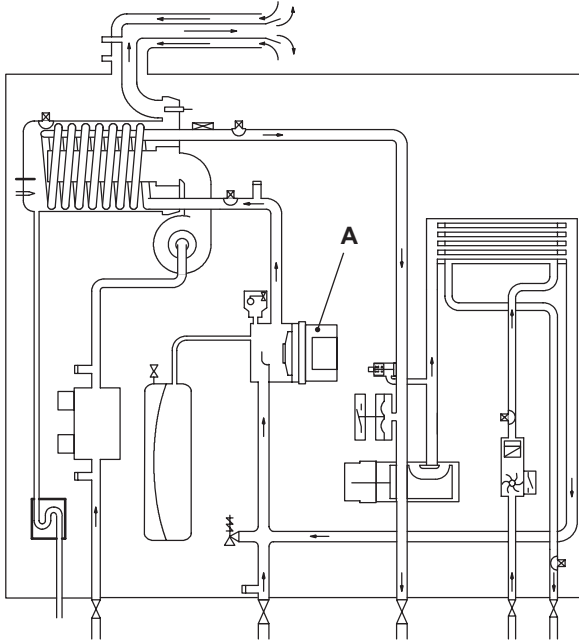
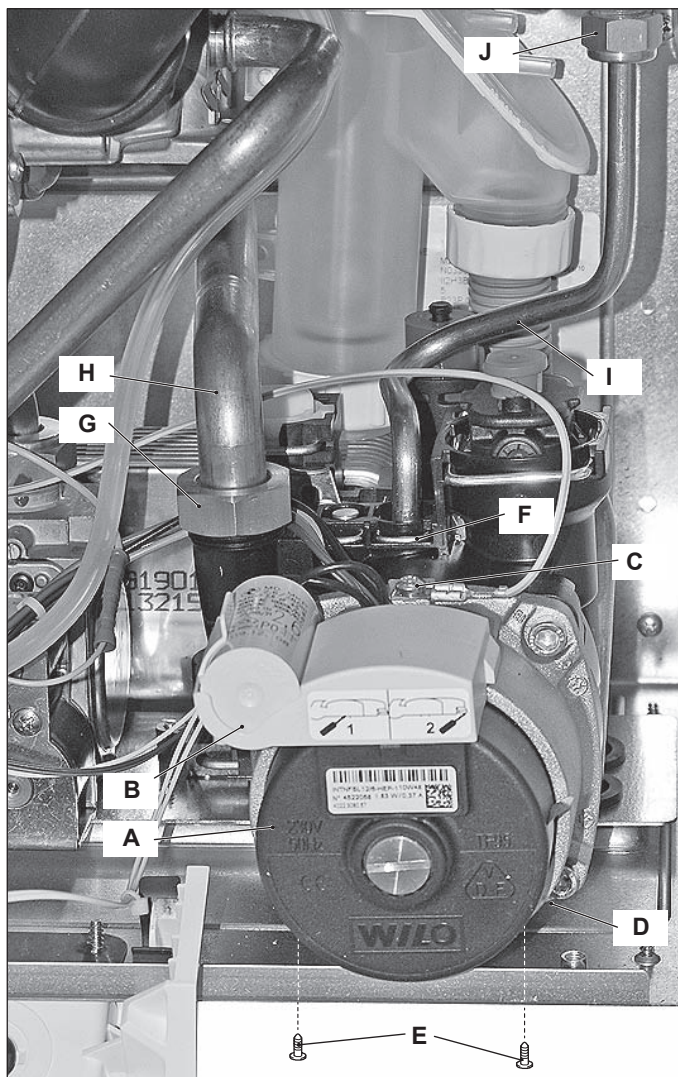

Figure 7.1
Figure 7.3
The pump A in Figure 7.1 and Figure 7.3 has the function of making the water in the main circuit circulate through the main condensing heat exchanger and therefore through the c.h. system (during the c.h. function) or through the secondary heat exchanger (during the d.h.w. function).
With the boiler off, remove the front panel and disconnect the connector B (Figure 7.3).
- 3 Disconnect the connector B (Figure 7.3) following the indications given on the connector box.
- 2 Disconnect the connector B (Figure 7.3) following the indications given on the connector box.